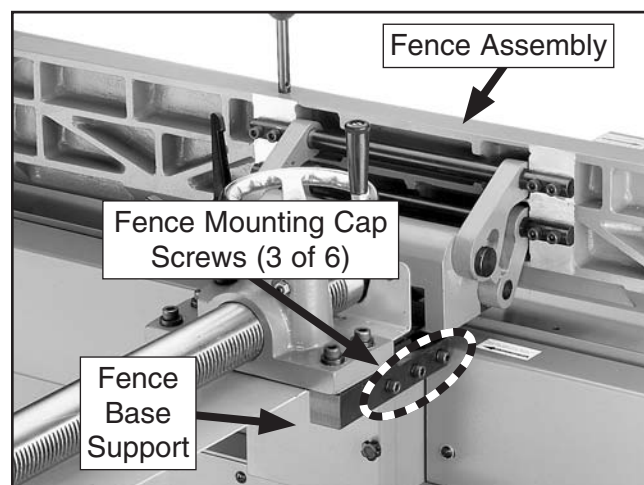

Figure 21. Fence assembly installed.
1. Remove the six pre-installed cap screws and lock washers on either side of the fence base support (see **Figure 21**).